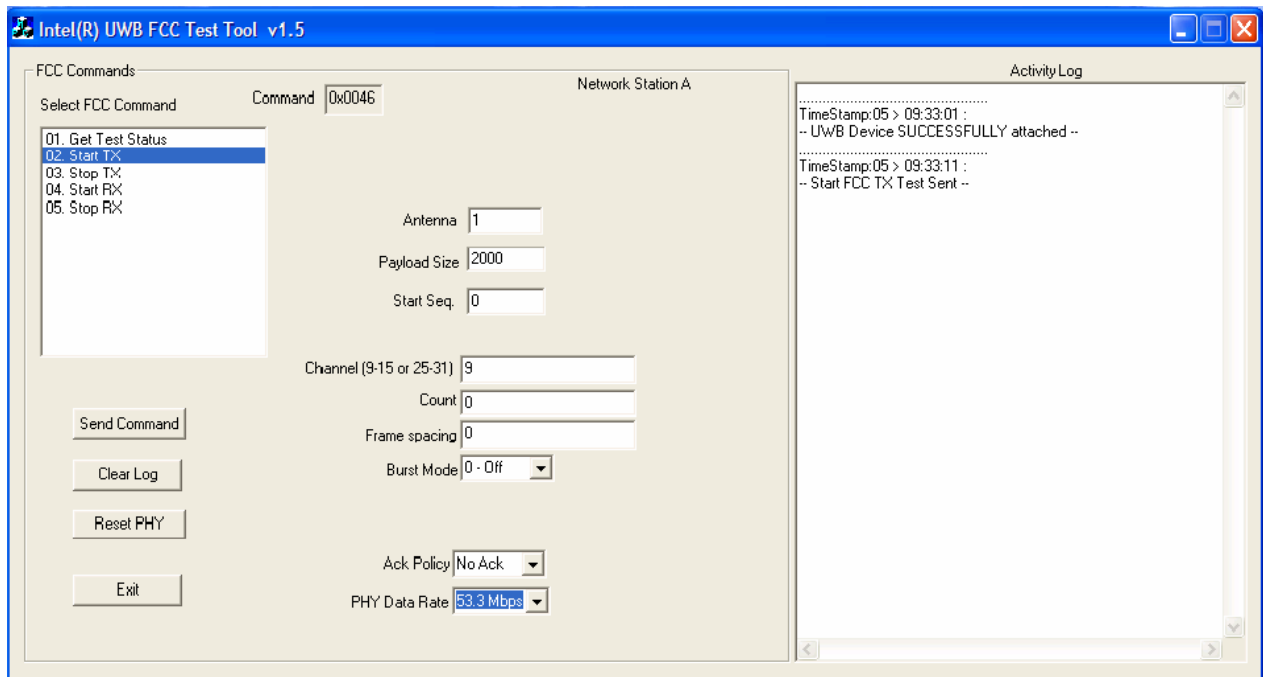

Figure 1-3: Intel® FCC Test Tool GUI with Typical Settings
11. The Intel® uwbFCCTestTool Software GUI will now appear. (See Figure 1-3 Below)